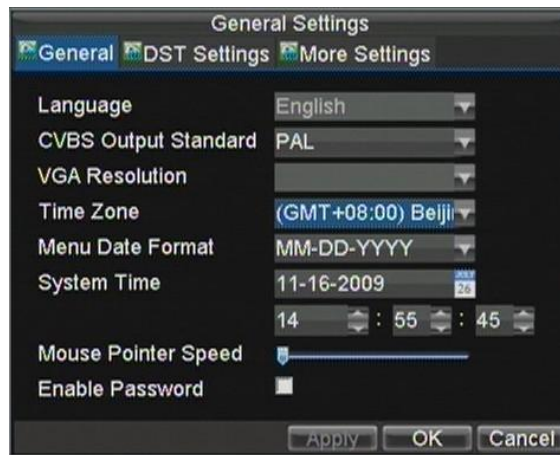

Figure 9. General Settings
3. Click the General icon. You will be taken to the General Settings window, as shown in Figure 9.